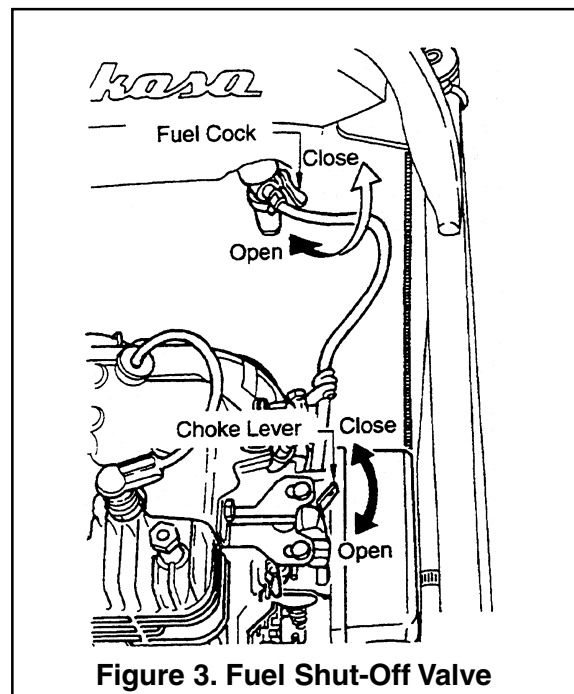

Figure 3. Fuel Shut-Off Valve
1. Open the shut-off valve by moving the strainer lever downward (Figure 3), then set the engine start/stop switch (Figure 4) to the "START" position.
- Close the choke lever Figure 3 and move the throttle lever to the "**Full Open**" position. Turning the choke lever 90 degrees clockwise closes the choke. In cold weather, start the unit with choke fully closed. In warm weather or when the engine is warm, the unit can be started with choke halfway or completely open.
- If engine fails to start, move the choke lever (Figure 3) to the half open position to avoid flooding.
- Close the fuel shut-off valve by moving the strainer lever upward. See Figure 3.